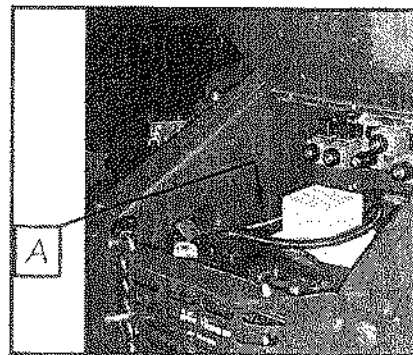

Figure 20-1
- Safety limit switch RK9 for slewing the booms is located in the turntable, point A, behind the battery, next to the rotary distributor, on the left side seen from the platform (figure 20-1)